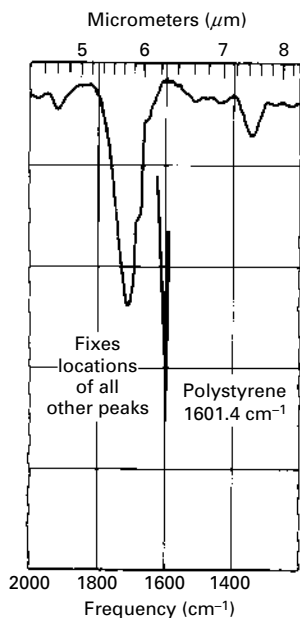
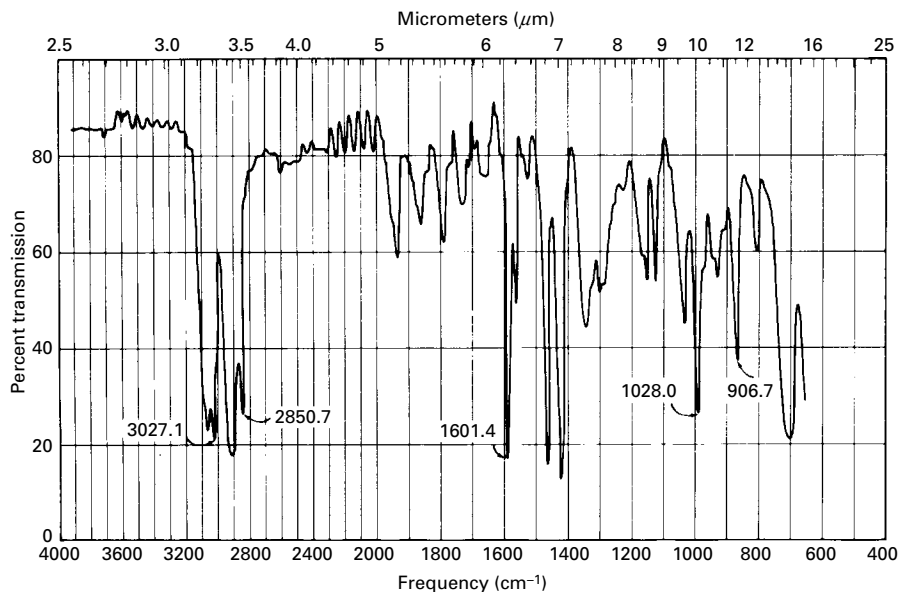

FIGURE 32.21 A calibration peak on an IR spectrum.
FIGURE 32.22 IR of polystyrene film, pointing out many calibration peaks.
4. Now, quickly start the scan, *let the pen draw just the tip of the calibration peak*, and quickly stop the scan. You don't need to draw more than that (Fig. 32.21). Just make sure you can pick your calibration peak out of the spectral peaks. If it's too crowded at 1601.4 cm^{-1} , use a different polystyrene peak— 2850.7 or 1028.0 cm^{-1} (3.51 or $9.73\text{ }\mu\text{m}$). Anything really well known and fairly sharp will do (Fig. 32.22).